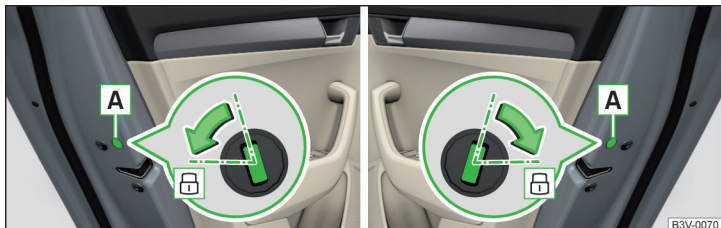

Fig. 248 Emergency locking: Left/right rear door
- Open the corresponding back door remove the trim **A** » Fig. 248.